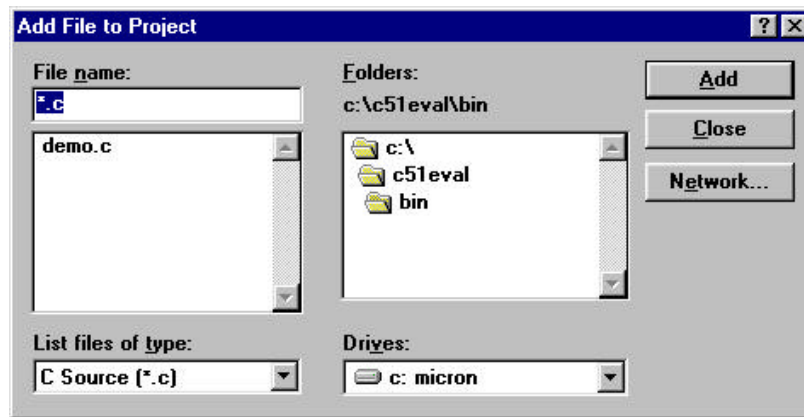

FIGURE 8
- 5) Choose *Add*. The window shown in Figure 8 appears. This is where you add the files to your project.